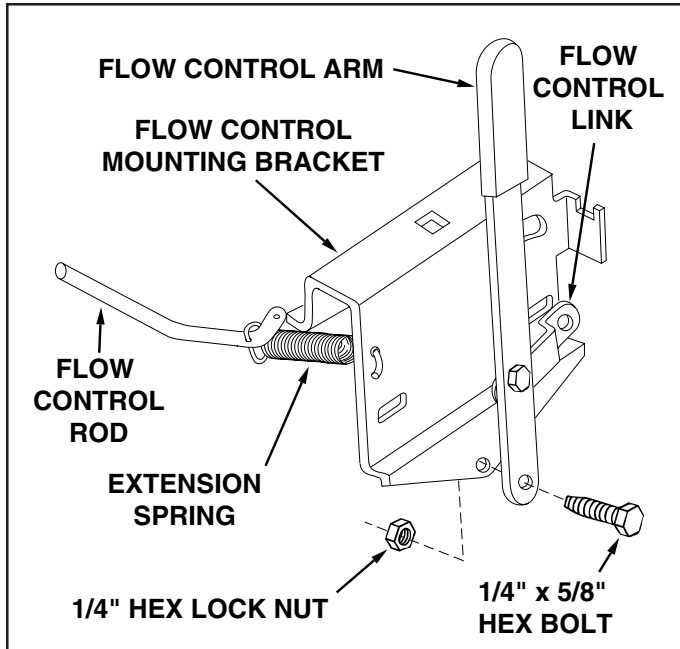

FIGURE 10
17. Assemble the flow control arm to the flow control mounting bracket using one 1/4" x 5/8" hex bolt and one 1/4" lock nut. **Do not over tighten.** The flow control arm must pivot freely. See figure 10.
18. Hook one end of extension spring through small hole near bend in flow control rod and the other end through hole in flow control mounting bracket. See figure 10.